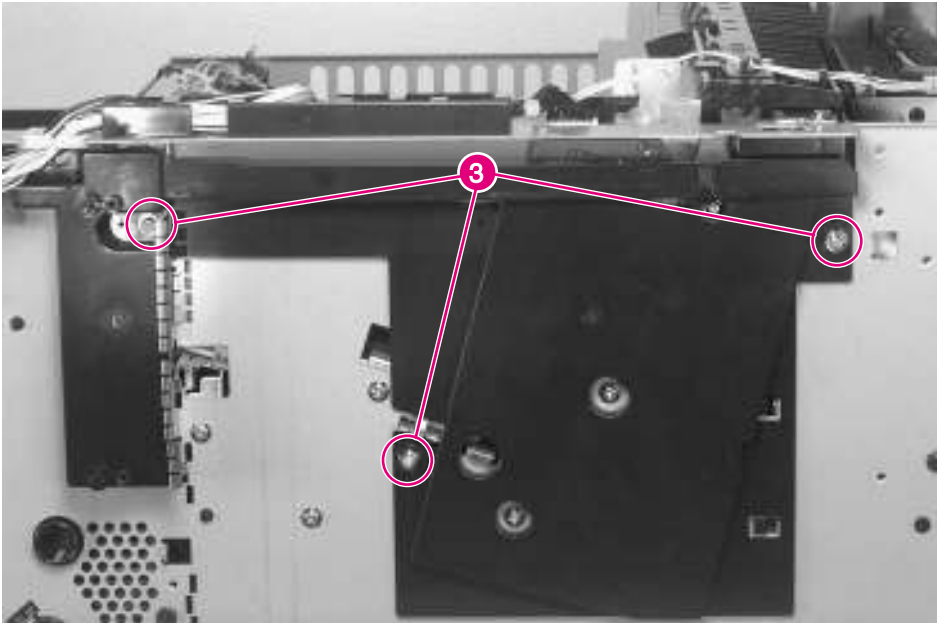

Figure 6-46 Output Paper Sensor PCA (3 of 4)
- 4 Remove 3 screws (figure 6-46, callout 3), and remove the plastic PCA shield. (Note the positioning of the metal grounding fingers at the left of the shield.)